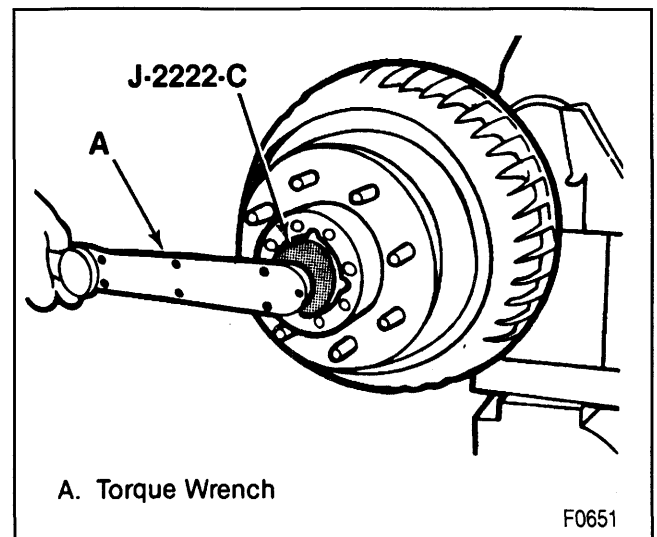

Figure 24—Tightening the Adjusting Nut
- Adjusting nut to 68 N·m (50 lbs. ft.) while rotating hub and drum assembly (figures 24 and 25).